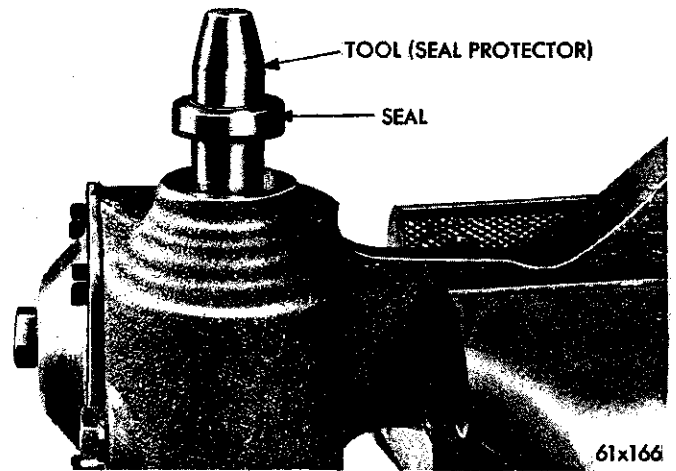

Fig. 8—Installing the Oil Seal Using the Seal Protector
(2) Place the oil seal protector of Tool C-3821 over the splines of the steering worm shaft and slide the oil seal over the protector with the lip of seal toward the housing (Fig. 8).